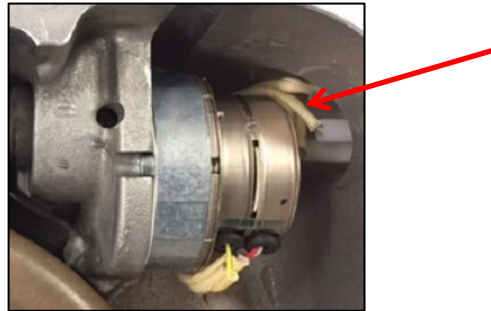

Figure 5. Wire Wrap
9. Loop wires as shown in Figure 5.